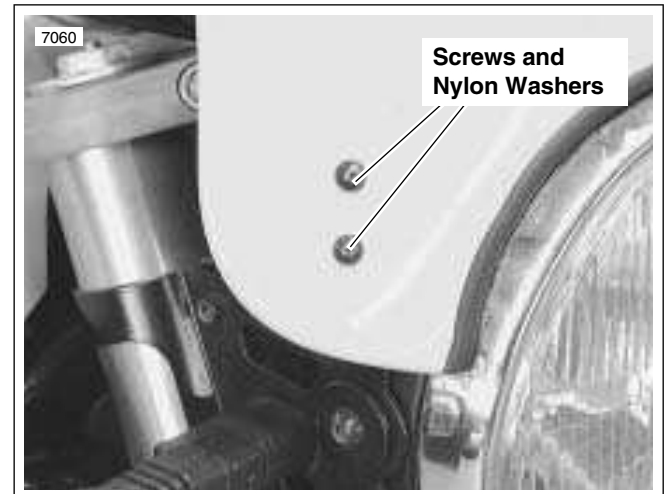

Figure 2-134. Windscreen, Right Side
1. See Figure 2-134. Remove two screws and nylon washers on each side.
3. See Figure 2-134. Install two screws and nylon washers on each side. Tighten securely.